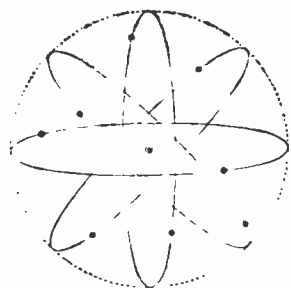

FIG. 1
1. They revolve about the neutral centre of the atom in fixed orbits (Fig. 1) at very high velocities (50 miles a second approximately.)